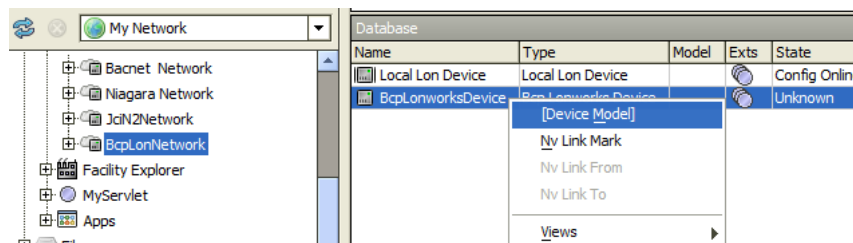

Figure 34: Select Device Model from Menu
6. When you add a programmable controller (Bcp Lonworks device), you have to select a device model. Right-click the device after it is added (Figure 34).